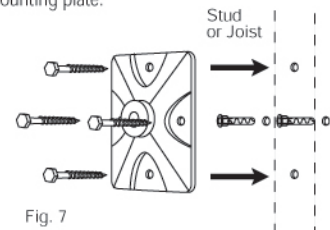

Fig. 7
2.5-Remove the mounting plate and prepare the mounting surface and all holes. Having located the exact center of the stud or joist, insert the 5/32" pilot hole drill bit into your drill motor. Drill four pilot holes; two into the wall stud or ceiling joist, two into the mounting surface. If the mounting surface is drywall you will use two togglers in the holes on either side of the stud or joist location holes. (See Fig. 7). Place the mounting plate on the mounting surface at your chosen location. Be sure to use all four supplied lag bolts in all four holes in the mounting plate.